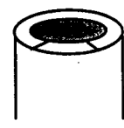

Figure 8. Cut two notches at top of casing to locate beeper tape.
- Cut 2 notches in the casing ~ ½" apart with a hacksaw (Fig. 8). This area serves as the tape position when beeping the well.